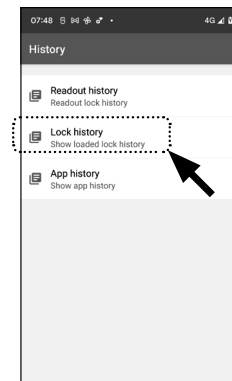

Fig. 94
- ⑨ Go back one step in the menu and tap on the item "Lock history" (Fig. 94).